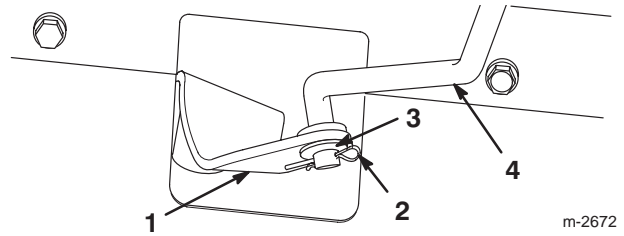
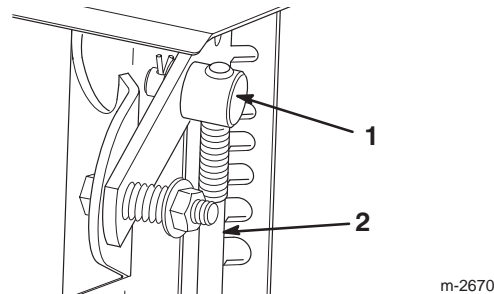

Figure 7
Figure 9
1. Pull the speed selector arm (Fig. 7) to the most outward position.
3. Rotate the speed selector rod in the trunnion (Fig. 9) until the bottom end of the rod can slip into the hole in the speed selector arm (Fig. 7).
4. Install the speed selector rod into the selector arm, add one flat washer on the rod, and secure it with a cotter pin (Fig. 7).